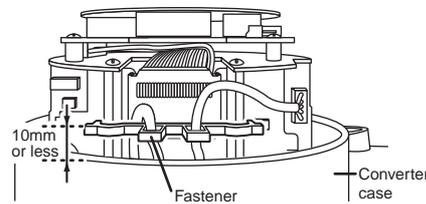

Figure 4.9.8 The Position of the Fastener
- (4) Tighten the three mounting screws while holding the assembly with your hand.
- (5) Attach a lead wire fastener to the rods, the position of the fastener be within 0 to 10mm from the rim of aluminum converter case. (Figure 4.9.8)
- (6) Push a bottom side lead wire fastener deeper along the rods using e.g. driver tip. The position of the upper fastener be within 0 to 10mm from the rim of aluminum converter case.(refer to Figure 4.9.8)